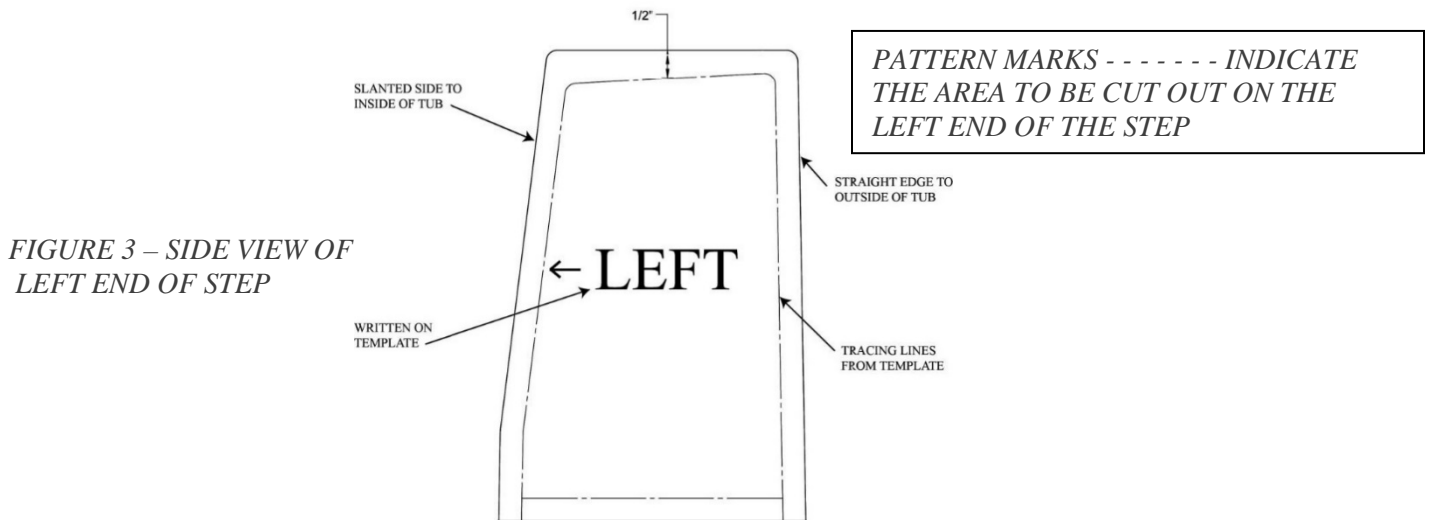

FIGURE 3 – SIDE VIEW OF LEFT END OF STEP
5. Place the right end of the CleanCut Step on the ground in order to trace the left side of the CleanCut Step. Place the top of the paper template approximately 1/2" from the top of the CleanCut Step (Figure 3). Place the tracing on the step so the slope is similar to that of the tub. Trace the outline of the paper onto the CleanCut Step with a continuous line. Continue the lines with a straight edge down and around the corners. Repeat the same procedure for the right end of the CleanCut Step. Remember to place the paper template approximately 1/2" down from the top of the CleanCut Step before beginning to trace. Continue the lines with a straight edge down and around the corners.